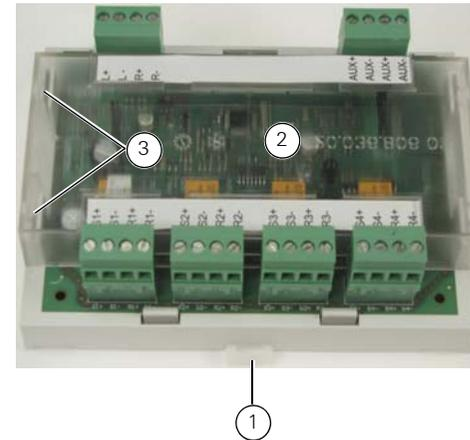

Fig. 1: QMO850 Quad Monitored Output Module
Figure 1 shows the QMO850 Quad Monitored Output Module, part number 555.800.070.
To remove the clear plastic cover, release each of the four retaining tabs in turn (see item 3 in Figure 1). Use a screwdriver to press the tab inwards, while pulling upwards on the cover.